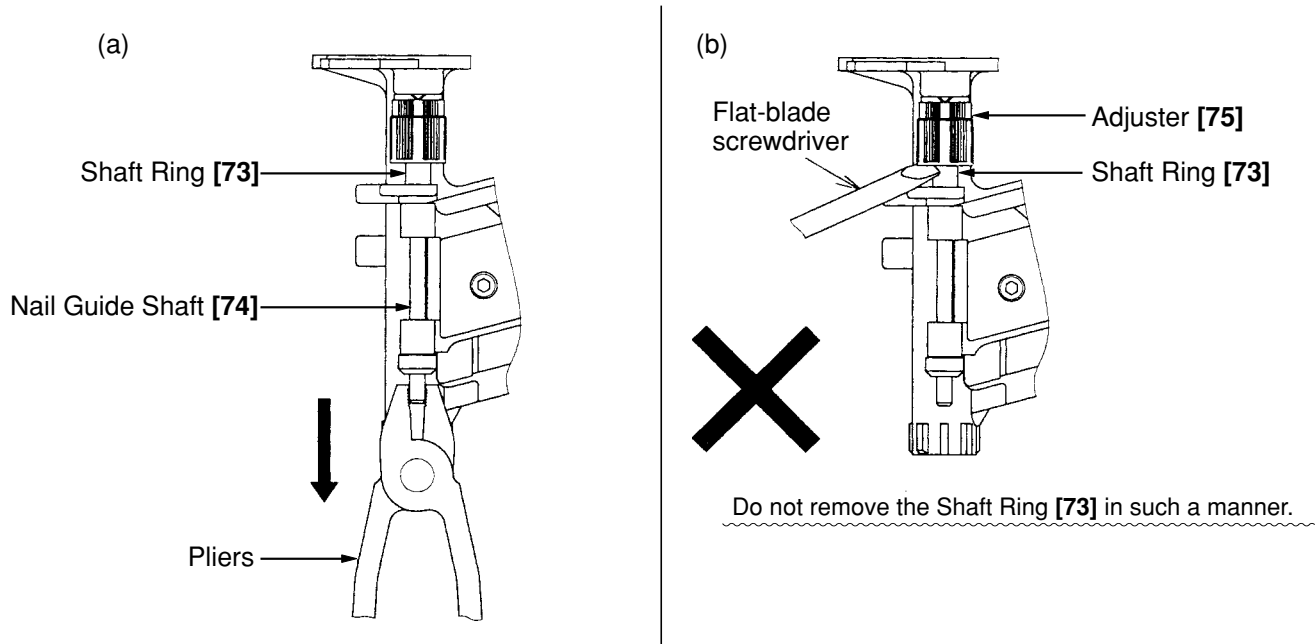

Fig. 19
- Next, pinch the lower tip of the Nail Guide Shaft [74] with pliers and pull down (Fig. 19 (a)). Then the Shaft Ring [73] can be removed from the Nail Guide Shaft [74] and the Nail Guide Shaft [74] can be pulled out of the Nose [32]. The entire nail guide section can be removed from the Nose [32]. Do not remove the Nail Guide Shaft [74] with a flat-blade screwdriver as shown in Fig. 19 (b). Otherwise the Adjuster [75] may be scratched. Take out the removed Shaft Ring [73] from between the Adjuster [75] and the Nose [32].